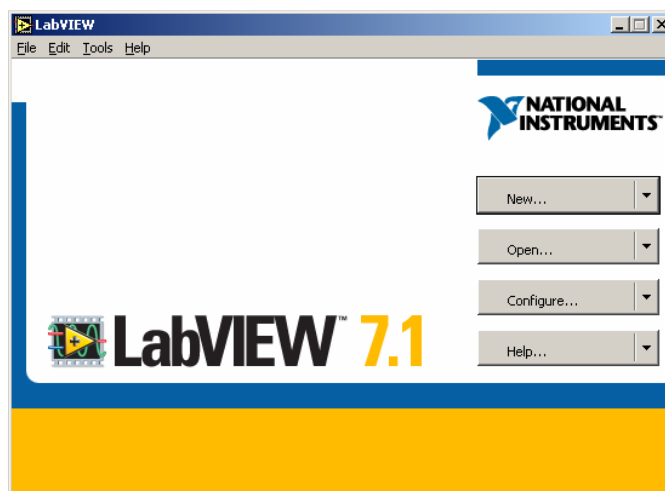

Figure 1. LabVIEW Dialog Box
2. In the **LabVIEW** dialog box, shown in Figure 1, click the **New** button to display the **New** dialog box.